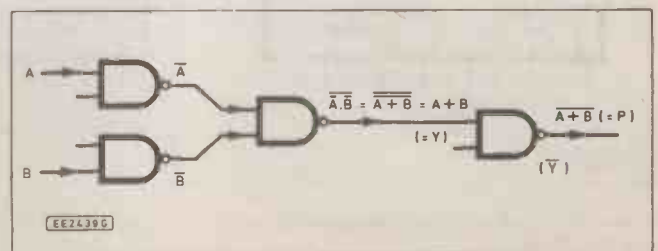

Fig.4.11. NAND equivalent of NOR gate.
**T** So you can. Using it as a final inverter. I'll just add it to the circuit diagram (Fig.4.11)